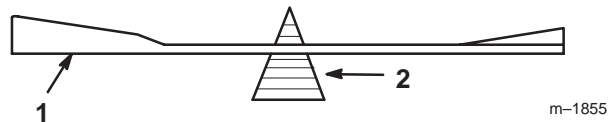
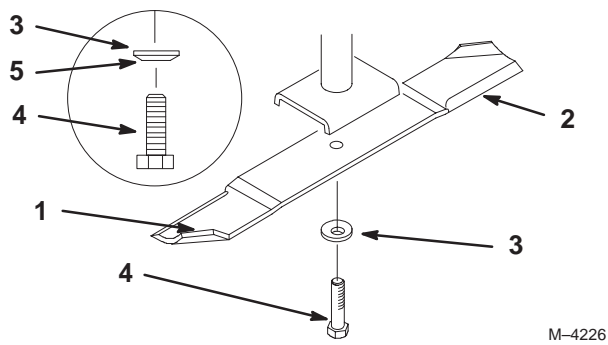

Figure 31
Figure 32
1. Hold the blade end using a rag or thickly-padded glove. Remove the blade bolt, spring disk and blade from the spindle shaft (Fig. 32).
2. Check the balance of the blade by putting it on a blade balancer (Fig. 31). If the blade stays in a horizontal position, the blade is balanced and can be used. If the blade is not balanced, file some metal off the end of the sail area only (Fig. 32). Repeat this procedure until the blade is balanced.
1. Install the blade onto the spindle shaft (Fig. 32).
2. Install the spring disk and blade bolt (Fig. 32). **Torque the blade bolt to 85–110 ft.-lb. (115–150 N•m).**